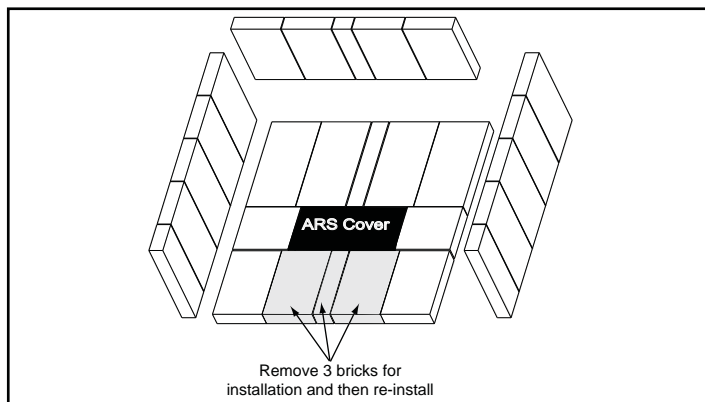

Figure 17.1
1. Remove 3 bricks as shown in **Figure 17.1** and remove the ARS access cover with tool supplied in the component pack.